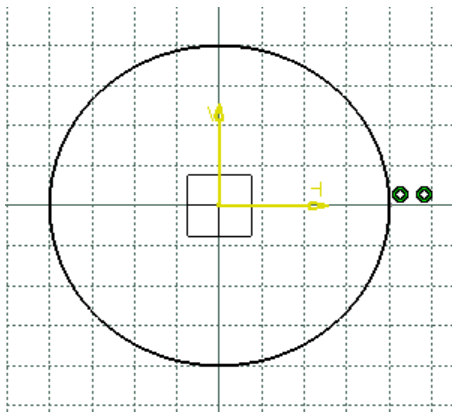

Figure 3-51 The sketch after drawing the first circle
- Start a new file in the **Part** workbench and draw the outer loop of the sketch using the **Circle** and **By-Tangent Line** tool, refer to Figures 3-51 through 3-54.
3. Move the cursor horizontally toward the right and define the circle radius when the radius of the circle in the **R** edit box provided in the **Sketch tools** toolbar displays a value of **40**. A circle is drawn, as shown in Figure 3-51.